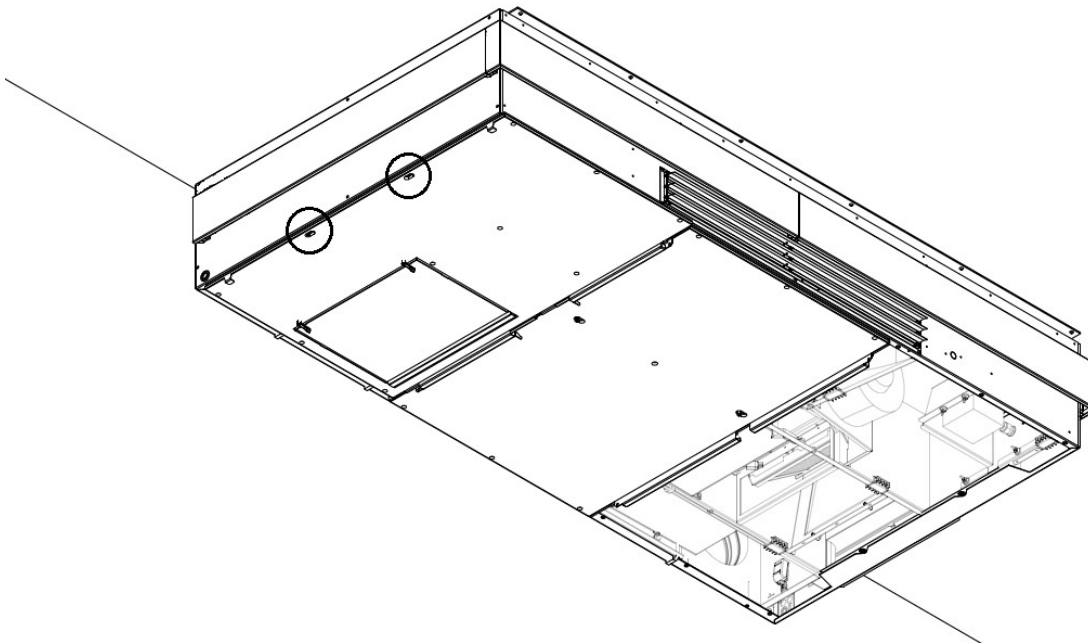
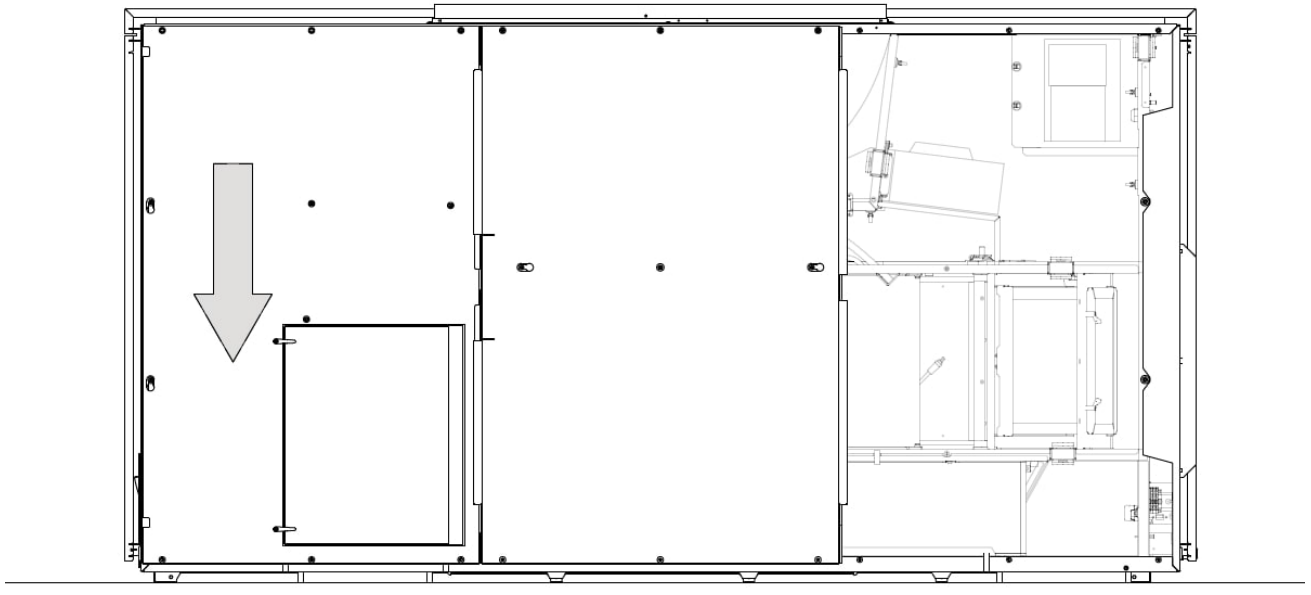

Figure 40: Keyhole on left-hand steel plate
Figure 41: Push steel plate toward the wall
7. Next you lift the plate up and onto the bolts you mounted in step 5. Just as before, the bolt heads must go into the round part of the keyhole, then push the plate toward the wall, locking the plate into the narrow part of the keyhole, see Figure 40, Figure 41, and Figure 42.